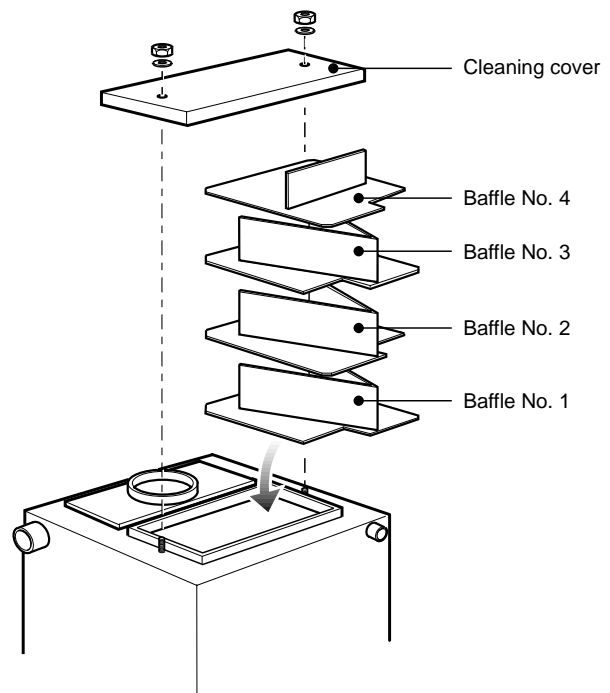

Fig. 33 - Combi 70 baffle positions
See Fig. 33
- 6 Replace the baffles, ensuring they are correctly fitted. See Fig. 33.
Note (Combi 70): Baffle plate one is at the bottom, then two, then three and four at the top (see Fig. 33).
- 7 Replace the cleaning cover, securing it in position with the two nuts and washers previously removed. See Fig. 33.